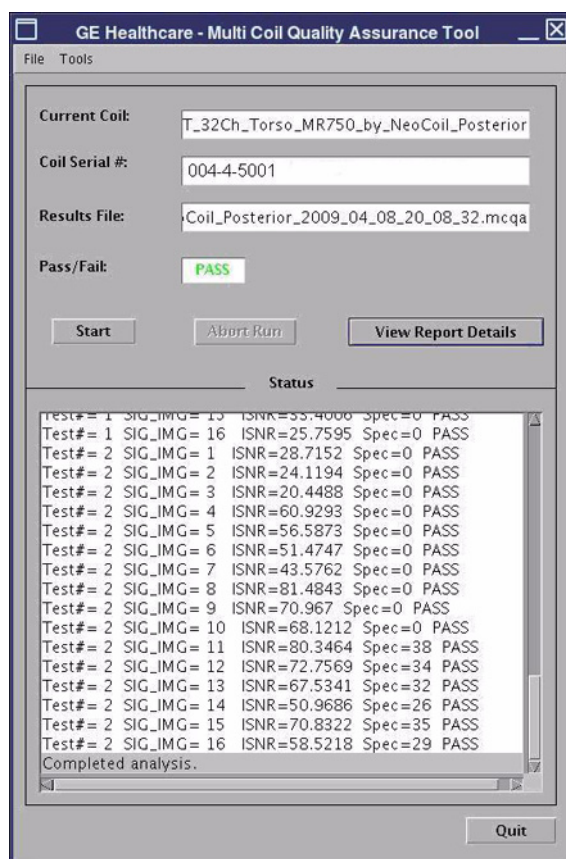

Figure 4-3 MCQA tool displaying the test results for the posterior coil
6. When the test is completed, results are displayed (see Figure 4-3). The results window shows the integrated Signal-to-Noise Ratio (SNR) as a function of the receive channel number. The PASS/FAIL status should show PASS if all coil elements are functioning properly.